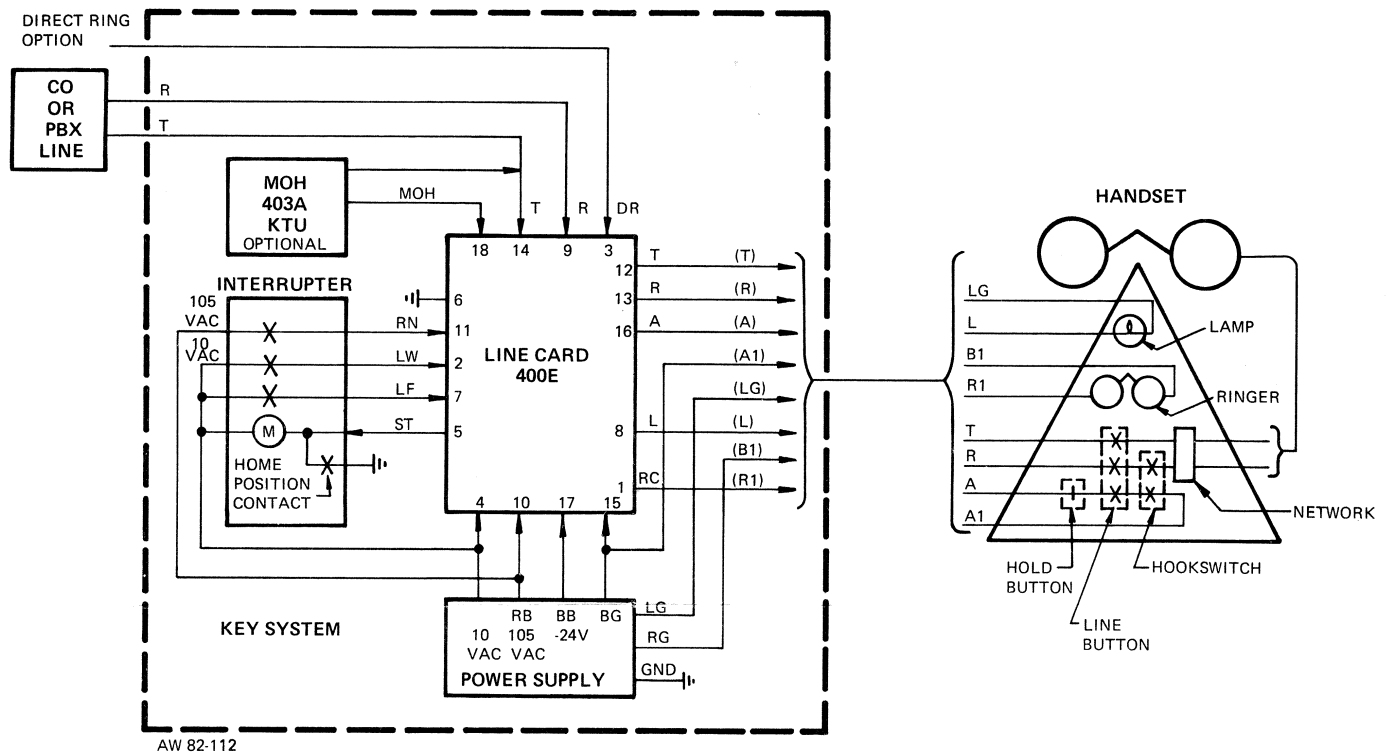

Figure 1: Typical Block Diagram of 400E Line Card and Associated Equipment
2.02 Figure 1 is a block diagram of the 400E KTU and associated equipment.